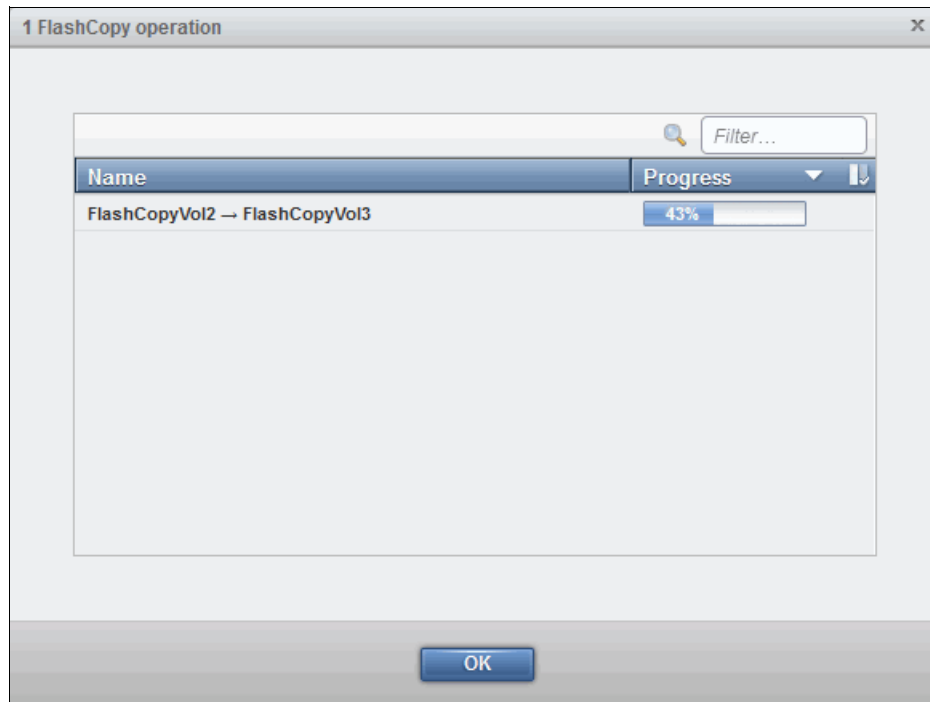

Figure 10-13 FlashCopy operations shown through Running Tasks
5. This view is slightly different from the FlashCopy and FlashCopy Mappings windows, as shown in Figure 10-13.